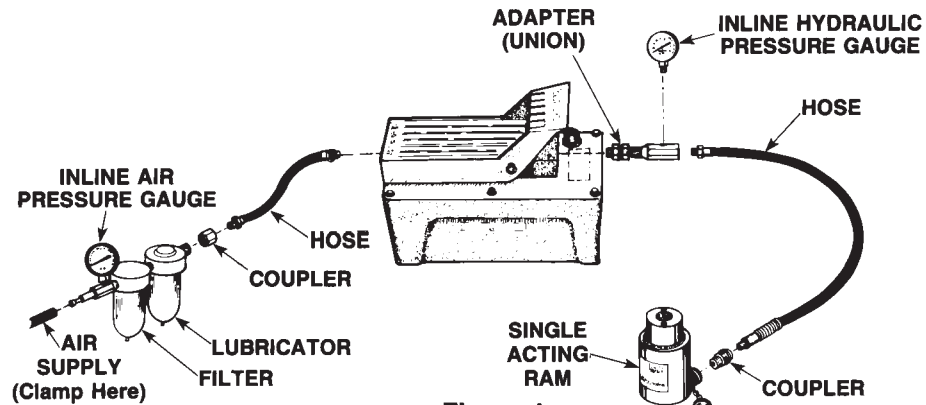

Figure 1
Remove the thread protector from the air inlet of the pump. Select and install the thread fittings which are compatible with your air supply fittings. The air supply should be 20 CFM and 100 PSI to obtain the rated hydraulic output. Air pressure should be regulated to a maximum of 125 PSI. Secure your pump fitting to the air supply. See Figure 1.
Clean all the areas around the oil ports of the pump and cylinder. Inspect all threads and fittings for signs of wear or damage and replace as needed. Clean all hose ends, couplers and union ends. Remove the thread protectors from the hydraulic oil outlets. Connect the hose assembly to the hydraulic oil outlet and couple the hose to the cylinder. See Figure 1.
The gauges referred to in Figure 1 are accessories and are not included with the pump. However, a hydraulic gauge is strongly recommended whenever the pump is used!
1. Remove the male fitting from the air filter and install a tee adapter, with gauge, between the hose and air filter. See Figure 1.
2. Install a tee adapter, with gauge, between the hose coupling and the pump hydraulic outlet port. See Figure 1.